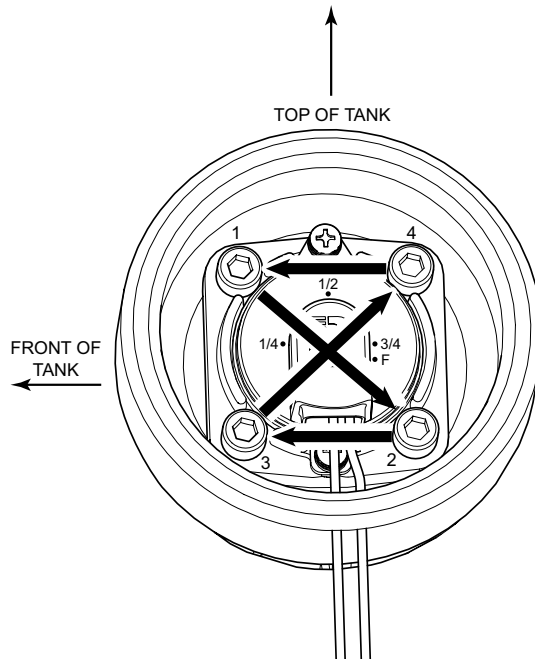

Figure 40 – Fuel Level Sender Torque Sequence
1. Install the new fuel level sender into the tank aligning it properly, see Figure 40.
3. Secure the level sender to the tank with four (4) bolts hand tight.
4. Torque the bolts in several steps in a crossing pattern until all screws are secure see Figure 40.